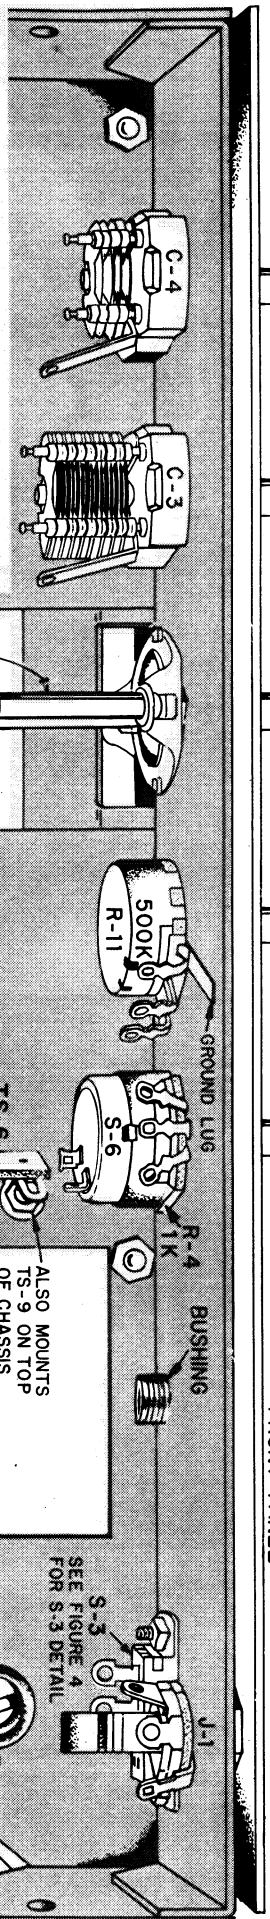

FIGURE 6.
- ☐ V-1, a 7-pin tube socket and a small tube shield base. From top of the chassis, mount the tube shield base for V-1 with two 4-40 screws as shown in Figure 6. From inside the chassis, mount V-1 on these screws, taking care to position the keyway as shown. Fasten with a lockwasher and nut on each screw.